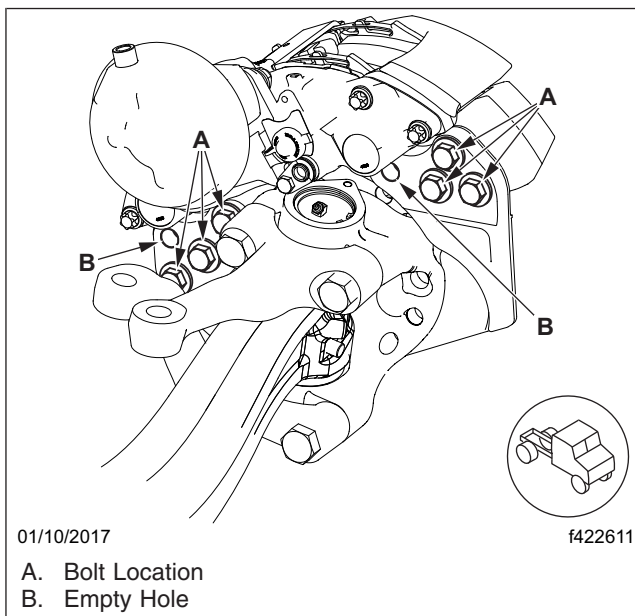

Fig. 1, Caliper Bolts, Front Axle
3. Inspect each brake caliper (front and rear) to make sure the caliper has all six caliper mounting bolts installed, that the bolts are all in the correct locations (see Fig. 1 and Fig. 2), and that they are not loose.